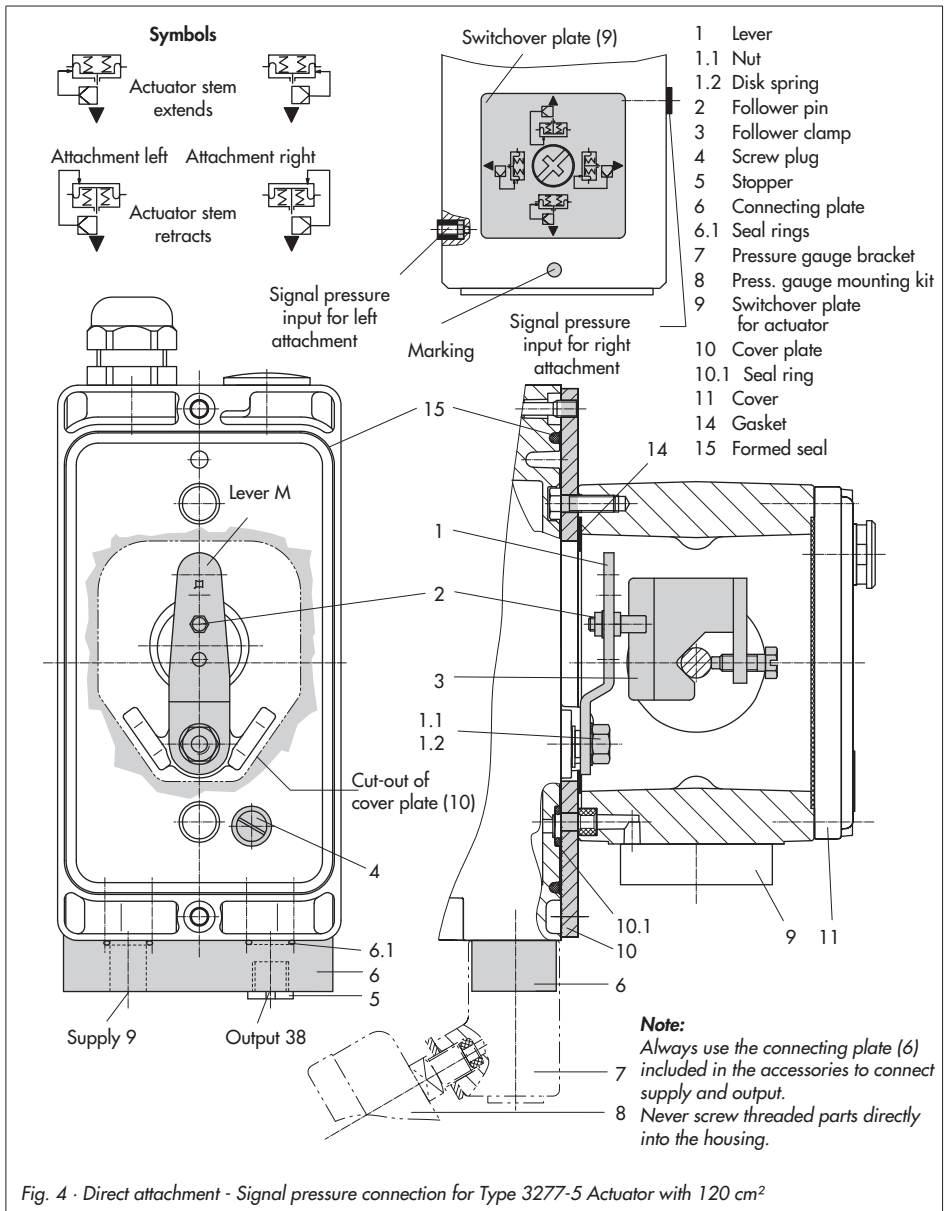

Fig. 4 · Direct attachment - Signal pressure connection for Type 3277-5 Actuator with 120 cm²
1. Mount connecting plate (6) or pressure gauge bracket (7) with pressure gauges onto the positioner, making sure both seal rings (6.1) are seated properly.
2. Remove screw plug (4) on the back of the positioner and close the signal pressure output "Output 38" on the connecting plate (6) or on the pressure gauge bracket (7) with the stopper (5) included in the accessories.
3. Place follower clamp (3) on the actuator stem, align and screw tight so that the mounting screw is located in the groove of the actuator stem.
4. Mount cover plate (10) with narrow side of the cut-out opening (Fig. 4, left) pointing towards the signal pressure connec-